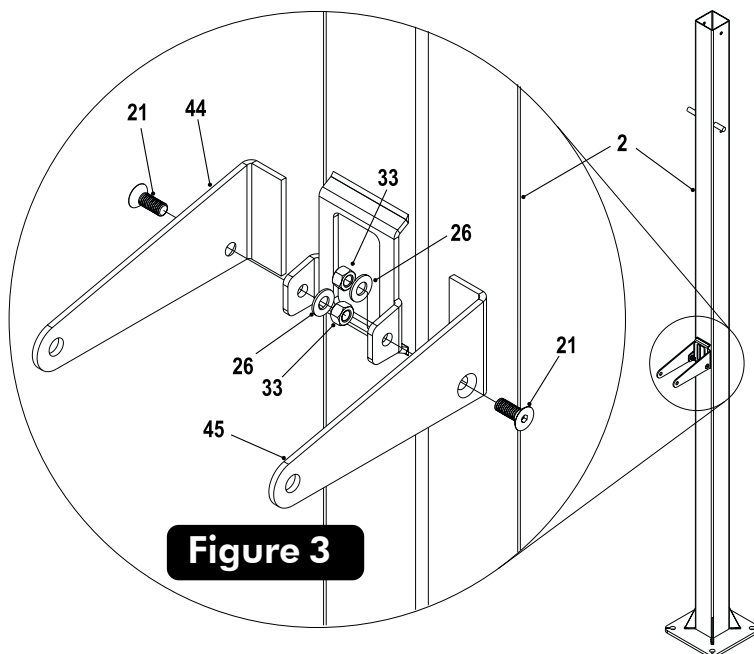

Figure 3
1. Slide Right Post Ear (#44) and Left Post Ear (#45) behind bracket on back of Post Assembly (#2). Using allen wrench (#46) provided, secure Right & Left Post Ears to bracket using one Flat Head Bolt (#21), one flatwasher (#26) and one locknut (#33). See Figure 3.